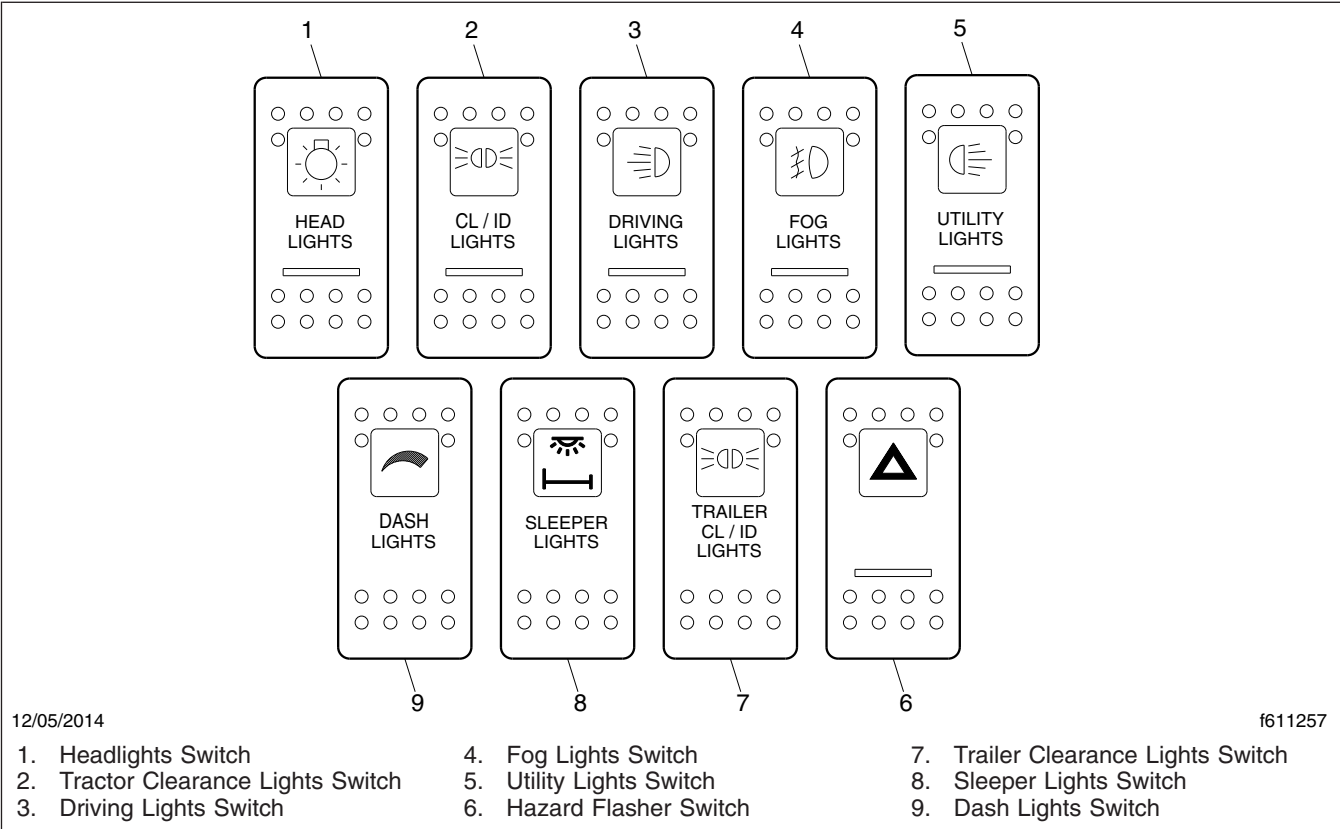

Fig. 4.5, Exterior and Interior Light Switches
See Fig. 4.5 for exterior and interior light switches.
The dash lights are controlled by the dash lights switch (Fig. 4.5, item 9). With the headlight switch in position 1 (marker lights on) or position 2 (headlights on), tapping the upper half of the dash lights switch increases the instrument cluster and switch backlighting incrementally. Note that tapping the switch past the maximum setting also activates the dome lamps and courtesy lights. Tapping the lower half of the switch dims the dash lights.
Both the ceiling and overhead console dome lamps can be activated using the dash lights switch (Fig. 4.5, item 9) when the headlight switch is in position 1 (marker lights on) or position 2 (headlights on). Tap the top half of the dash lights switch until the dome lamps are activated. Tap the bottom half of the switch to turn the dome lamps off.